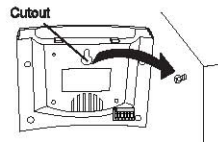

Fig. 2
1. Fit a screw or nail at the installation site and use the cutout hole to hang the wirefree chime on it (Fig. 2). The wirefree chime can be removed at any time for mobile use.